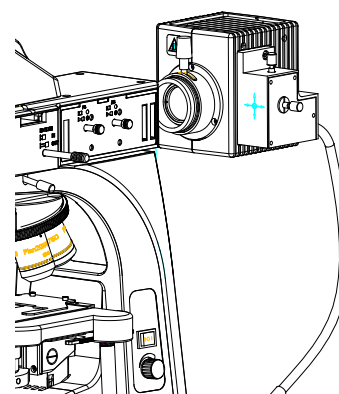

Fig. 7
1. Loosen the 3 screws on the Brightfield/Darkfield illuminator using S2 inner six angle screwdriver. Plug the axis of the lamp housing into the hole of the illuminator, then tighten the 3 screws until the lamp housing can not rotate.(Fig.7)